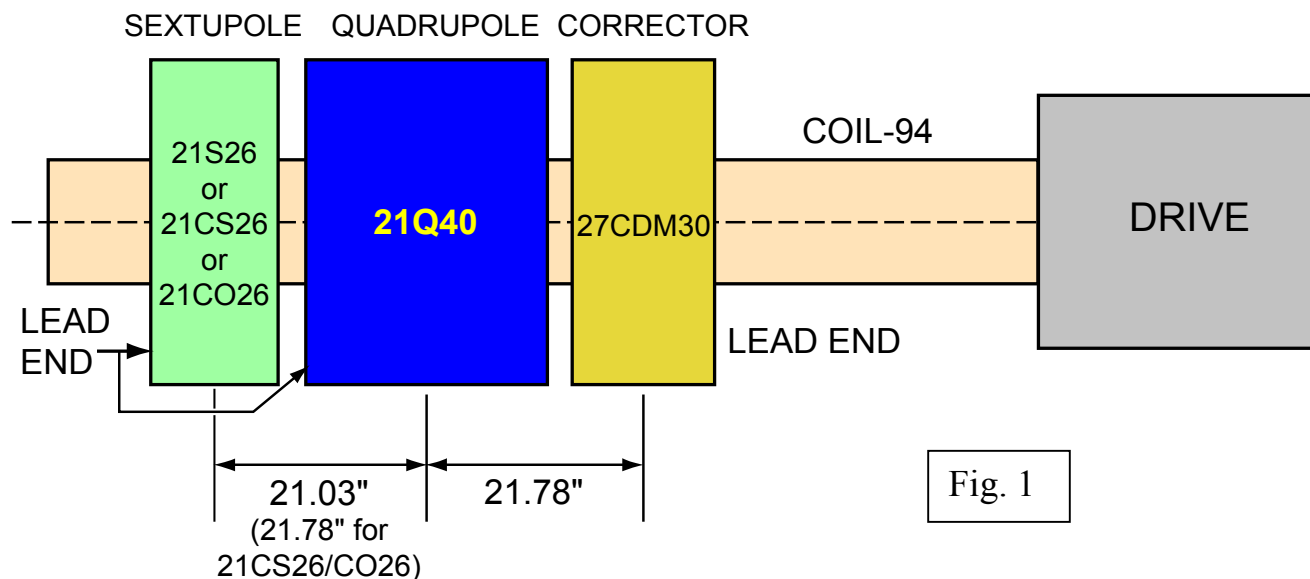

Fig. 1
All measurements will be carried out with the coil drive on the corrector end of the assembly. The locations and orientations of various magnets in the assembly are shown schematically in the following figure (Fig. 1):
- (1) Place the magnet on the granite table, with the lead end TOWARDS the coil drive end.
- (2) Attach power supply cables, etc.
- (3) Install the measuring coil, with the magnet center 21.78 inch from the coil center, TOWARDS the drive end. (See Fig. 1.) Accuracy of 0.25 inch is OK.
- (4) Measure positive and negative DC loops to 12 A, as per the usual run plan.
- (1) Place the magnet on the granite table, with the lead end AWAY from the coil drive end.
- (3) Install the measuring coil, with the magnet center 21.03 inch from the coil center, AWAY FROM the drive end. (See Fig. 1.) Accuracy of 0.25 inch is OK.
- (4) Measure DC loops. Detailed run plan will be provided later.